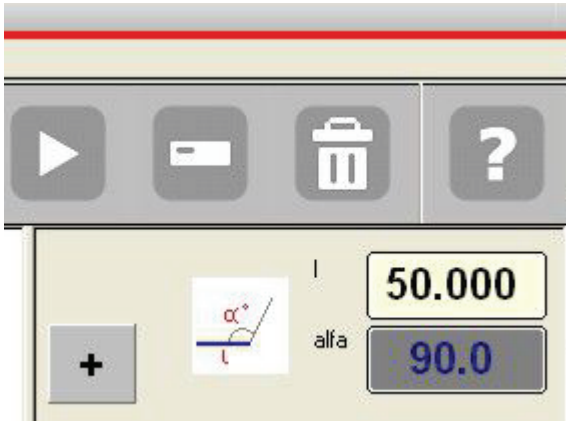

Figure 25 Portion of the part described above, viewed on the “ALPHA angle field” display
- If the “pincushion” option of the keyboard has not been enabled, by touching the ALPHA angle Field (as illustrated in Figure 25) the Soft Keyboard will reappear and allow you to enter the angle: